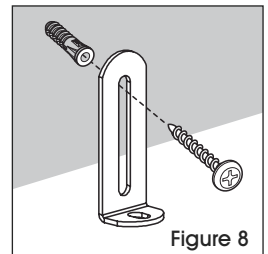

Figure 8
4. Insert 1/4" screws through L-Brackets into wall anchors. Secure, but don't overtighten. (See Figure 8)